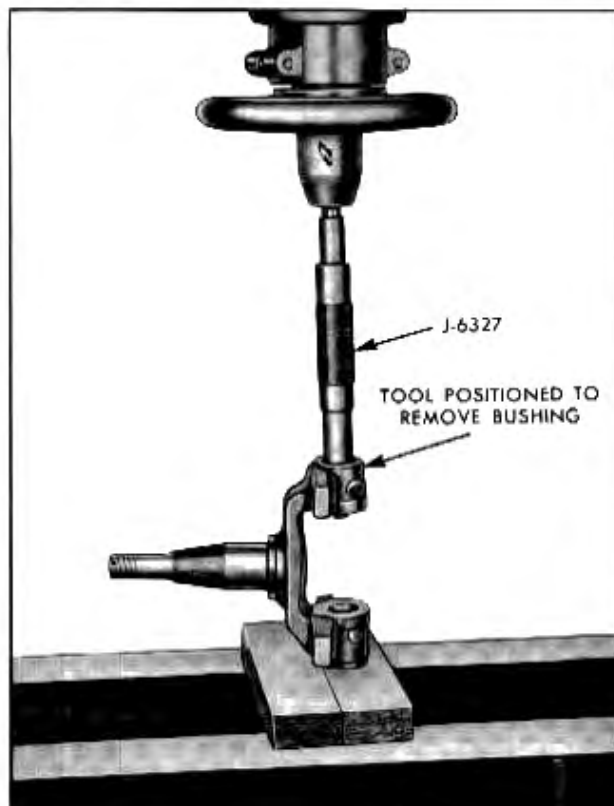

Fig. 3-23 Removing Steering Knuckle Bushing
6. Press out bushings using Bushing Remover and Replacer J-6327 (Fig. 3-23).